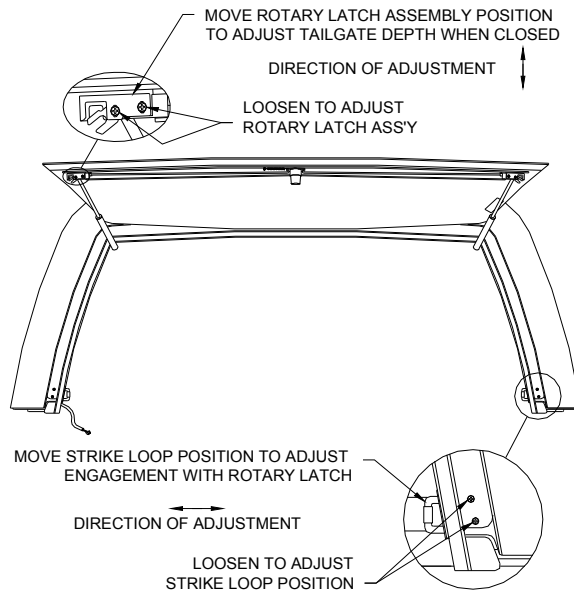

Figure 2. Rotary Latch Tailgate Adjustment
1. The rotary latch tailgate fit and function may be easily adjusted by simply loosening a few Phillip head screws. To adjust the fit (depth when closed) of your tailgate, loosen the two Phillip head screws on the rotary latch assembly and move it down to push the tailgate away from the "XUV" cap when closed, or up to move the tailgate towards the "XUV" cap when closed. To adjust the function (latch engagement) of your tailgate, begin by inspecting the mechanism to determine the direction of the adjustment needed. Next, loosen the two Philip head screws on the strike loop and move it to the desired position. Please refer to **Figure 2**.